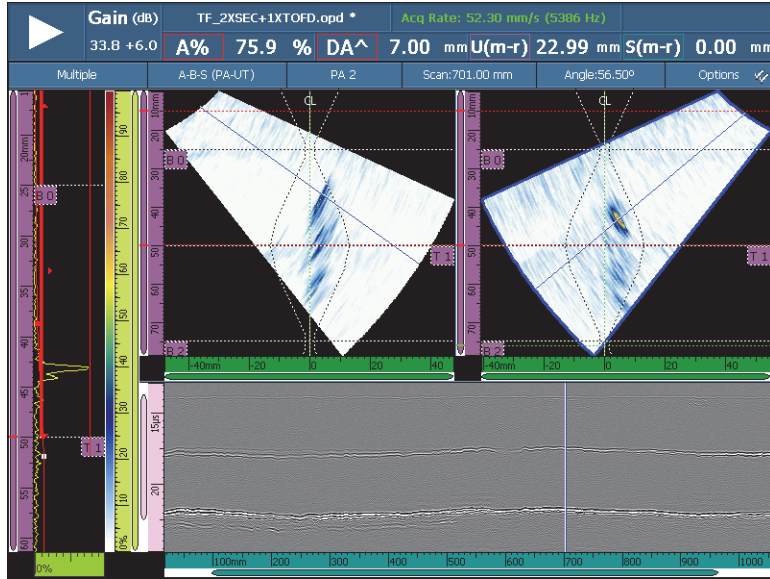

Figure 6-2 An example of the PA-UT Weld (A-B-S) layout
- (1) Enter appropriate element numbers in the **Pulser** and **Receiver** parameters, if necessary.
- (2) Select **Next**.
8. Choose the appropriate layout in the Layout section of the title bar (see Figure 6-2 on page 155).